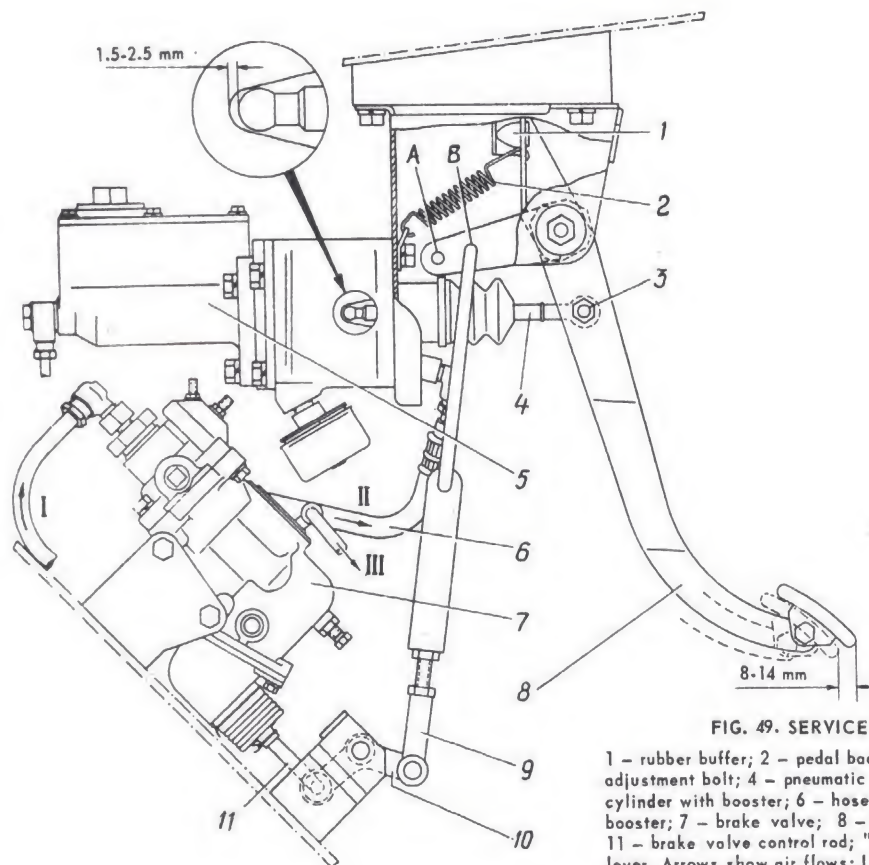

FIG. 49. SERVICE BRAKE CONTROL
The brake control is hydraulic, air-assisted (including a pneumatic booster). The brake control includes suspended brake pedal 8 (Fig. 49), master cylinder 5 with the pneumatic booster, brake valve 7, pipes and wheel cylinders.
The clearance must be 1.5 to 2.5 mm which corresponds to the brake pedal free travel of 8 to 14 mm (see Fig. 49) in the middle of the pedal pad.
2. Disconnect rod 9 (see Fig. 49) from lever 10.